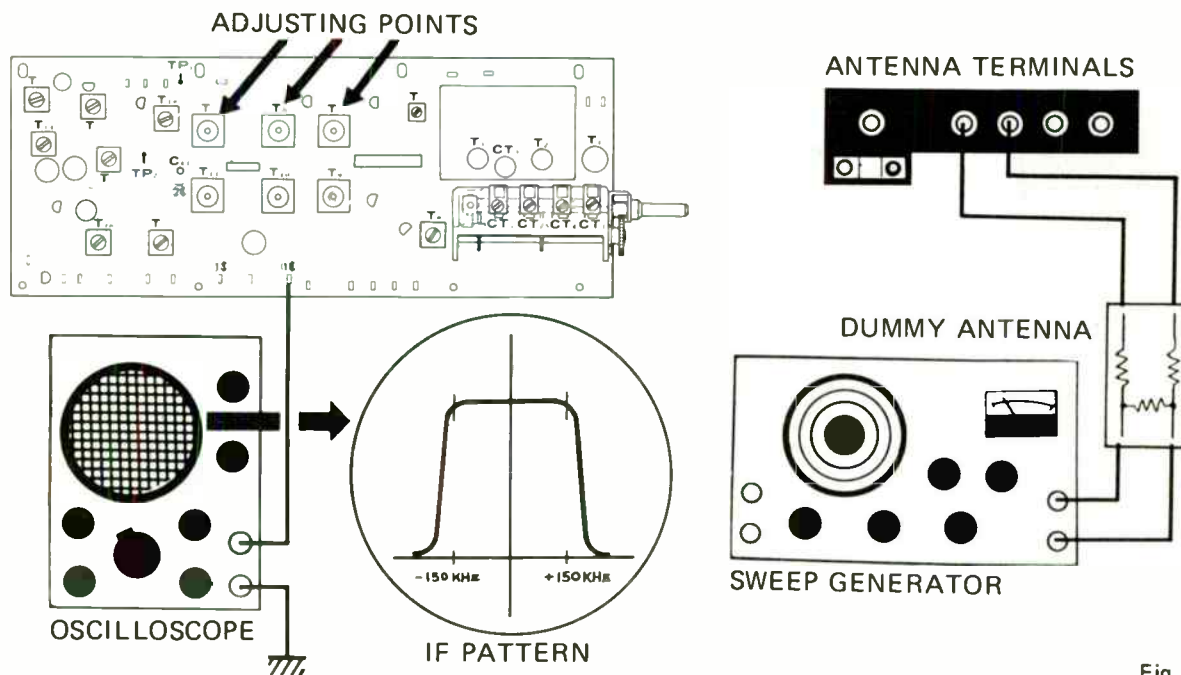

Fig. 2
- (b) Connect a resistor  $220\text{k}\Omega$  in series with the vertical input terminals of the oscilloscope (Fig. 2).
- (c) Remove the capacitor ( $4.7\mu\text{F}$ ) from the terminal ⑳ before the alignment (Fig. 2).
- (g) Connect the vertical input of oscilloscope to the FM meter output terminal ⑱, when connecting to the FM meter terminal, disconnect the meter lead, then terminate  $4.7\text{k}\Omega$  between the terminal ⑱ and ground.
- (i) Adjust the FM IFT cores (T4, T5, T6) as shown in Fig. 2.